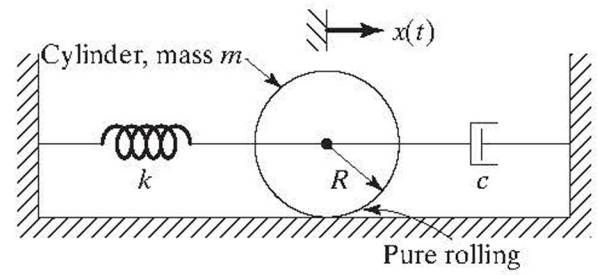

FIGURE 2.110
**2.112–2.114** Derive the equation of motion and find the natural frequency of vibration of each of the systems shown in Figs. 2.110 to 2.112.